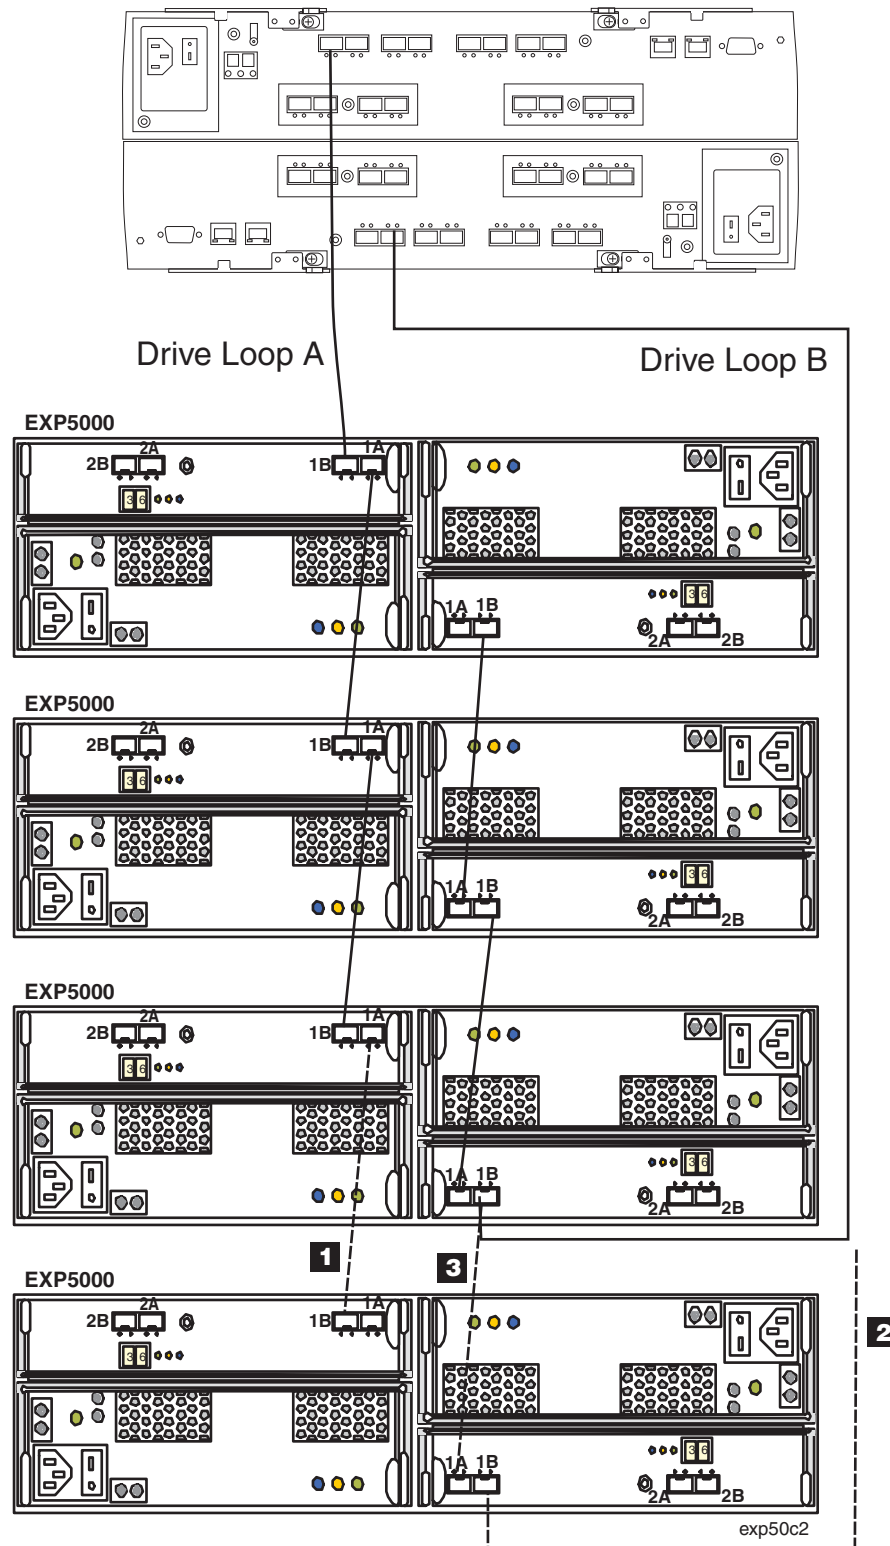

Figure 32. Cabling the EXP5000 to an existing and configured drive loop
Figure 32 on page 67 shows an example of a DS5000 storage subsystem configured with redundant drive loop pairs.
The dashed lines in Figure 32 show how to add a new EXP5000 to an existing DS5000 configuration with EXP5000s. To add the new EXP5000 shown in Figure 32, perform the following steps:
4. Make the fibre-channel connection marked **1** in Figure 32 on page 67 (drive loop A) by connecting port 1A of the existing EXP5000 to port 1B of the new EXP5000. Then verify that it is recognized by the DS Storage Manager software GUI.
5. Move the existing fibre-channel connection marked **2** in Figure 32 on page 67 from the existing EXP5000 enclosure ESM port 1B to the new EXP5000 enclosure ESM port 1B.
6. Make the fibre-channel connection marked **3** in Figure 32 on page 67 (drive loop B) by connecting port 1A of the new EXP5000 to port 1B of the existing EXP5000.